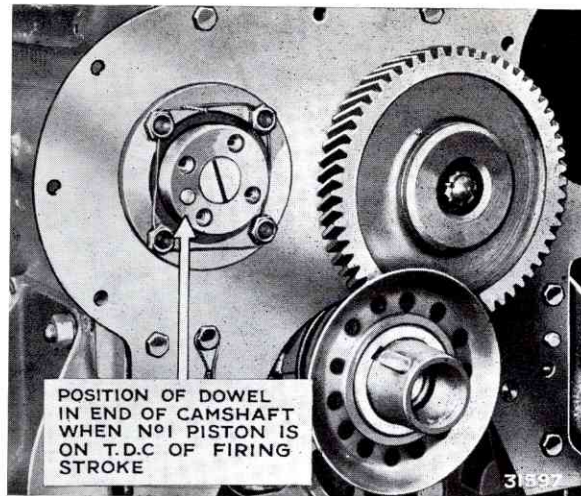

FIG. 29. GEAR LOCATING DOWEL IN CAMSHAFT END
8. Remove the four setscrews fixing the camshaft thrust washer, and withdraw the camshaft (Fig. 29).